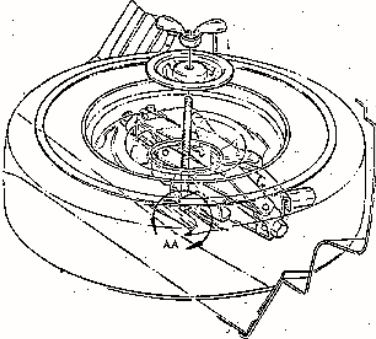

Fig. 2 - Spare Tire Stowage
3. Add the reworked washer to the tie down bolt and slide the bolt assembly forward into the spare wheel hold down bracket. See Figure 2 and 3.
4. Install the jack assembly, the spare wheel and associated attaching parts as shown in Figure 2.